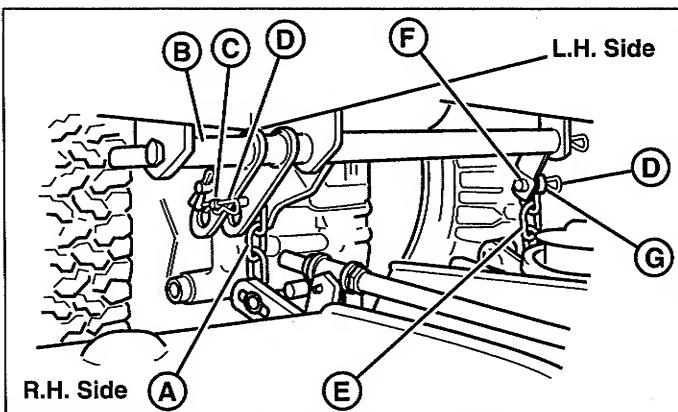

Figure 17. Mower Lift - Hydraulic Lift Models & 44"
4. See Figure 17. Connect the mower lift chains (A & E) to the the tractor lift arm (B) using the clevis pins, washers and safety clips. Install the shorter clevis pin (F) on the left side as shown.